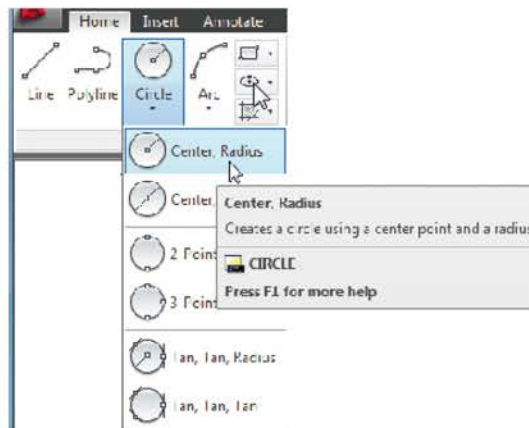

Fig. 3.11 The Circle tool from the Home/Draw panel
2. *Left-click* on the **Circle** tool icon in the **Home/Draw** panel (Fig. 3.11).